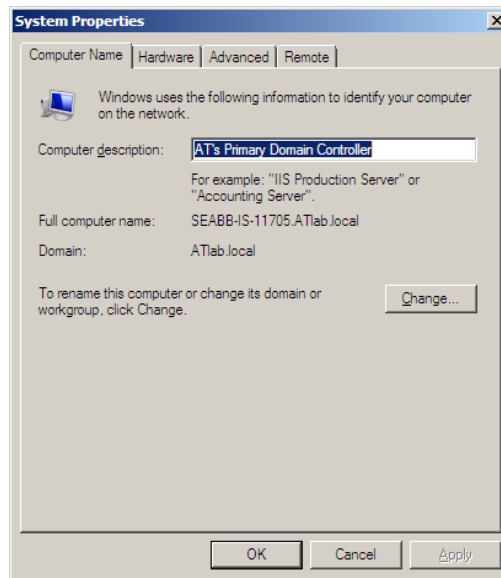

Figure 49. System Properties for a Domain Controller with Computer Name
The nodes within a domain must be given computer names that are unique within the domain. The full computer name of a PC is “computer name”.domain name”, e.g. ServerA.mydomain.local (see also Figure 49). The corresponding NetBIOS name is written \\MYDOMAIN\SERVERA.
- The Computer Name tab (in **Start > Settings > Control Panel > System**) for the Domain Controller must indicate that it belongs to the newly created domain, see Figure 49.